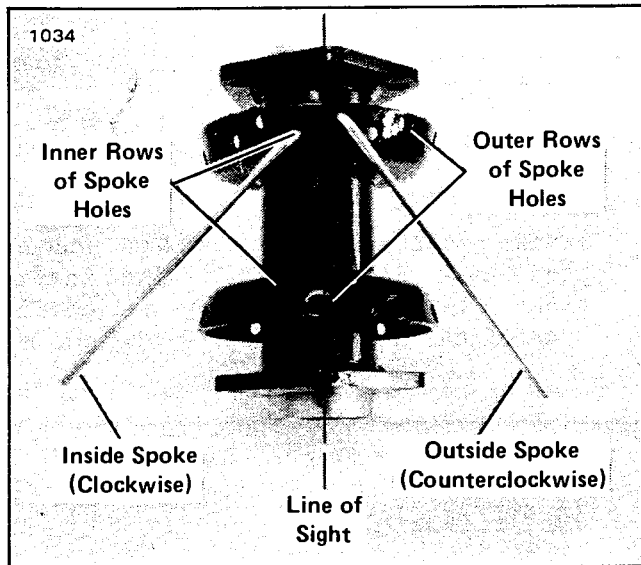

Figure 2. Starting Spokes in Wheel Hub- New Style.
See Figure 2. Pick any outside spoke hole and sight straight across the hub. The first spoke hole to the right of the line of sight is an outside spoke hole.
LACING (Figures 2 and 3)
2. Insert spokes in ten inner spoke holes of hub flange (see Figure 2).